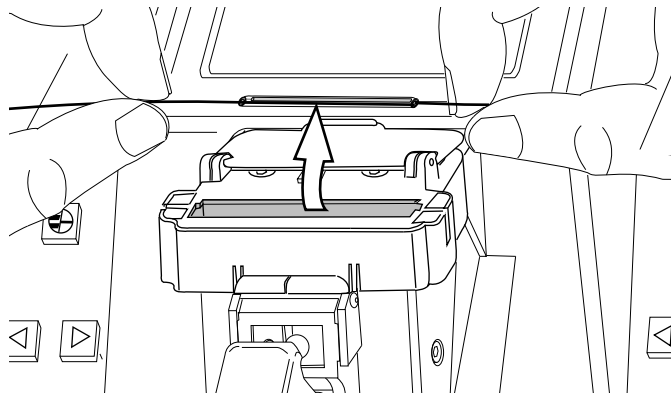

Figure 51
- e) After the heat cycle is completed, open the heater cover and remove the completed splice (Figure 51).